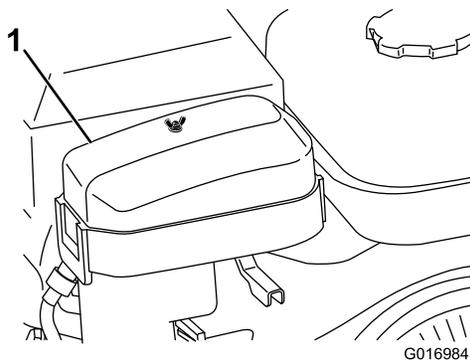

Figure 24
2. Remove the wing nut securing the air cleaner cover and remove the cover (Figure 24).